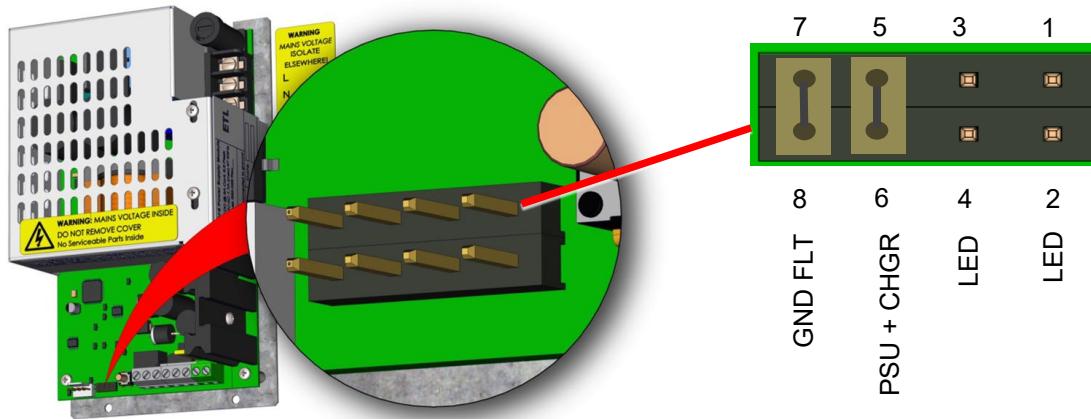

Figure 24 - Common System Ground Fault Monitoring
Located on the NX10-EM-PSU6 PCB (printed circuit board) is an eight (8) pin jumper arrangement, one of those pairs of pins is a jumper (pins 7 and 8) for setting up the NX10-EM-PSU6 ground fault detection. The NX10-EM-PSU6 module is shipped with this jumper installed across pins 7 and 8, configuring the NX10-EM-PSU6 to monitor for ground fault conditions (Figure 24).
To allow the command centre NX10-ACS base card to monitor the NX10-EM-PSU6 module for ground fault detection, the factory installed jumper across pins 7 and 8 on the NX10-EM-PSU6 module must be removed to avoid paralleling ground fault detection circuitry (Figure 24). In addition, wire a cable from the -V0 terminal of the NX10-EM-PSU6 module to the ANC PSU 0V terminal located on the NX10-ACS base card. As there will be two (2) wires required under the NX10-EM-PSU6 module's -V0 terminal, use a Shield twin cable ferrule, manufactured by Weidmuller.